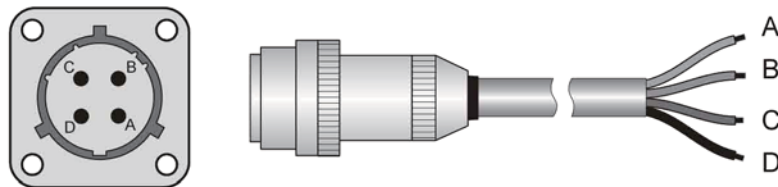

Fig.3
- The **optional** cable is terminated with a connector at one end and it is made of PTFE UV-proof. It is provided with 3 wires and a braided wire (shield). Cable colors and connector poles are matched as follow (figure 3):